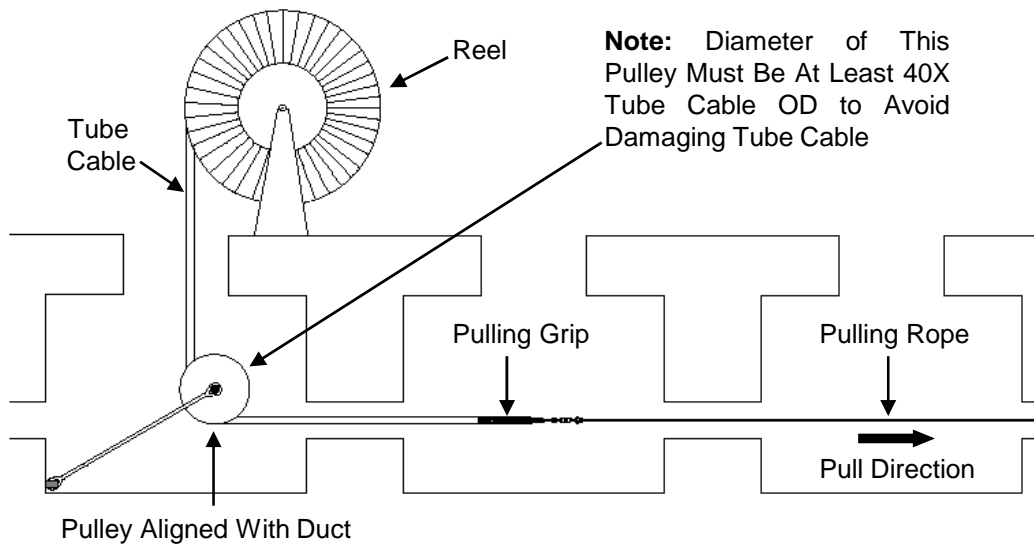

Figure 18
17.1.1 A typical Manual Pulling set-up and operation is shown in **Fig. 18.**